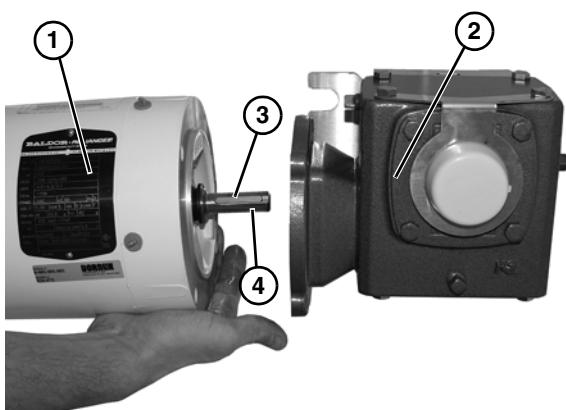

Figure 40
6. Slide motor (Figure 40, item 1) off of gear reducer (Figure 40, item 2), and remove shaft key (Figure 40, item 3) from motor shaft (Figure 40, item 4).
7. With key (Figure 40, item 3) in keyway on motor shaft (Figure 40, item 4), slide new motor (Figure 40, item 1) and gear reducer (Figure 40, item 2) together.